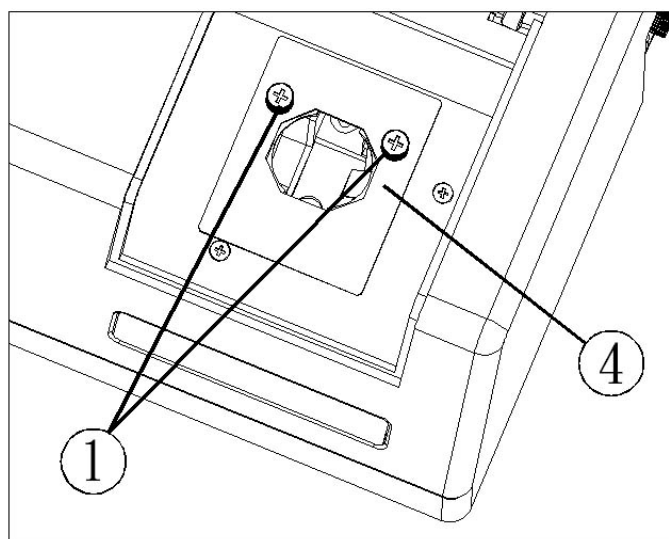

Figure 4c: 1" cylindrical cell holder
8. For 1" round tube measurement, orient bracket #4 and tighten two knobs (figure 4c).